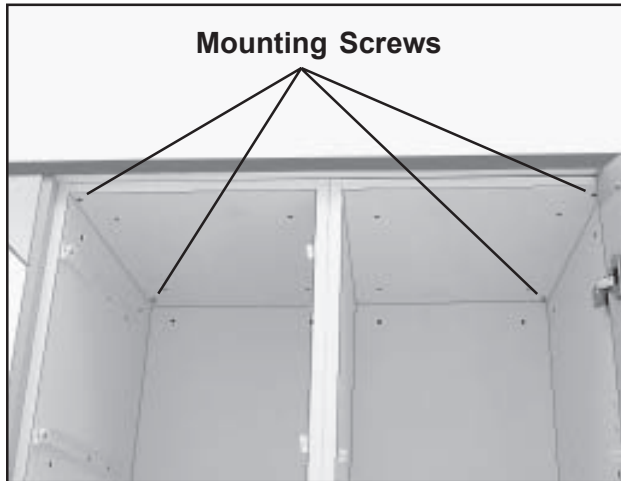

Figure 24. Interior View of Exam Table
2. With a Phillips screwdriver, remove the four exam top mounting screws (Figure 24).